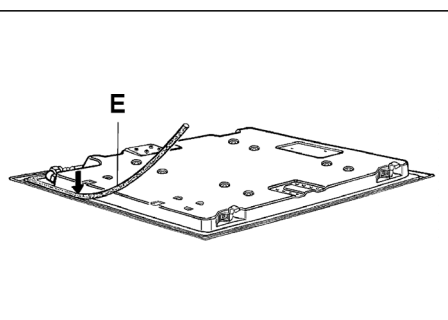

FIG. 9
- Overturn the hot plate and correctly position seal "E" (fig. 9) under the edge of the hot plate itself, so that the outer side of the seal perfectly matches the outer perimetral edge of the hot plate. The ends of the strips must fit together without overlapping.